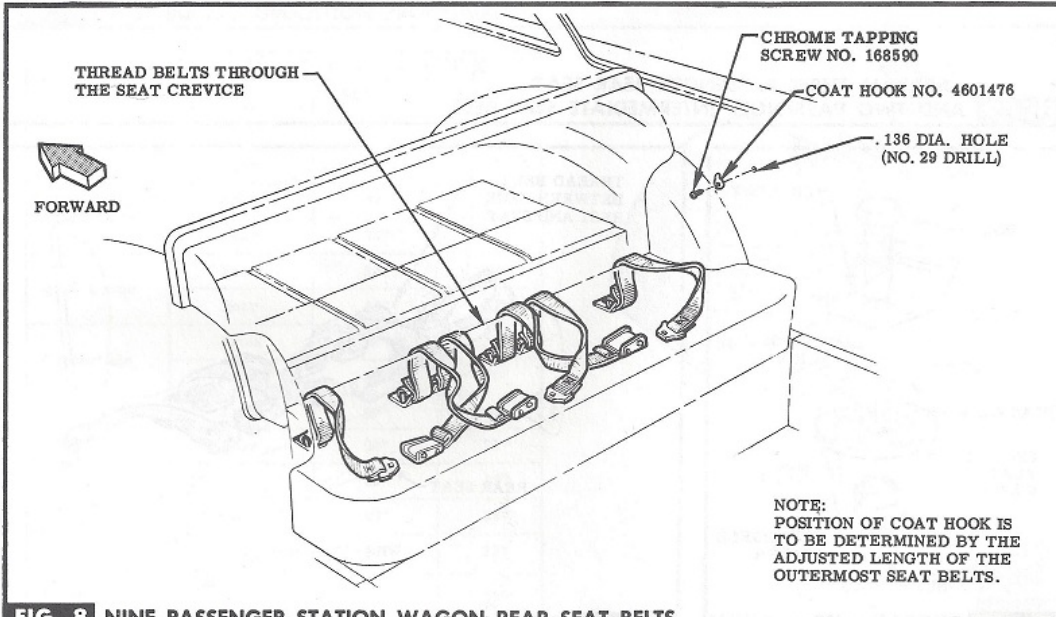

FIG. 8 NINE PASSENGER STATION WAGON REAR SEAT BELTS
STEP 15 ATTACH SEAT BELTS TO THE BRACKETS AND RETURN SEAT TO NORMAL POSITION, THREADING THE BELTS THROUGH SEAT CREVICE. SEE FIGURE 8.
STEP 16 ATTACH BELT HOOK AS SHOWN IN FIGURE 8.